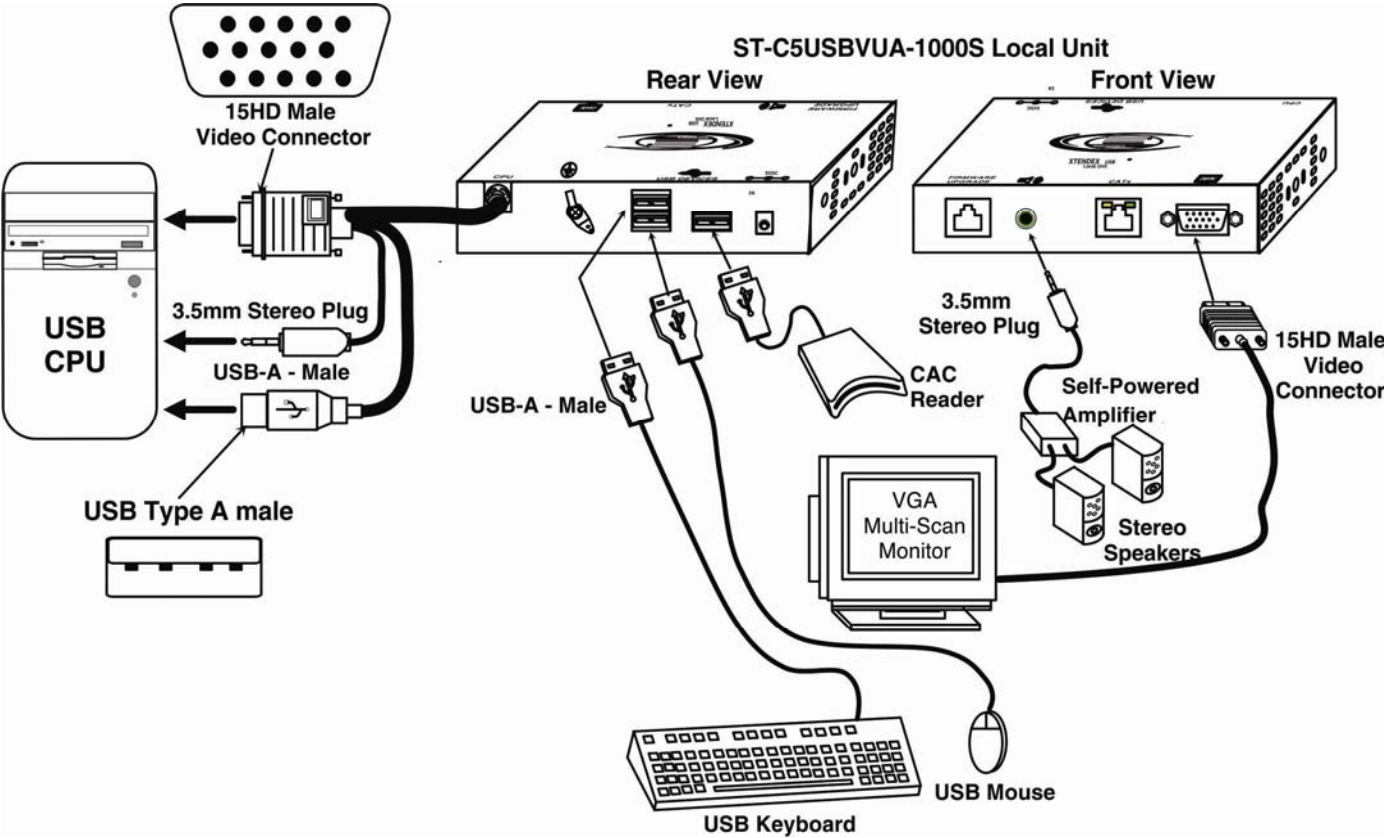

Figure 1- Connect the Local Unit to a CPU
1. Plug the cables of the Local Unit into the back of the CPU. (See Fig. 1.)